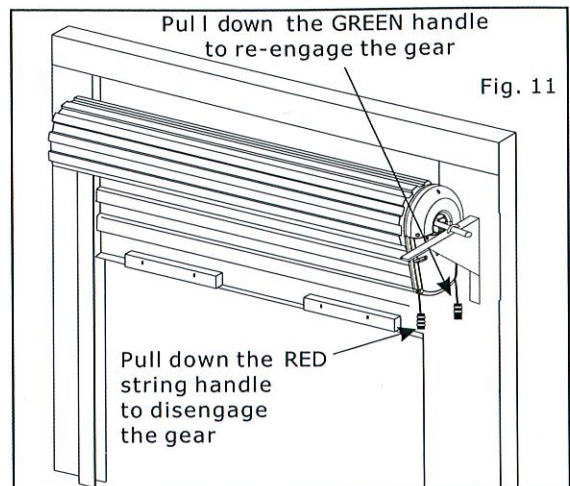

Fig. 11
- (a) With Drive Unit in manual mode (disengage, see Fig.11), move the door up by hand to desired position.
- (a) With Drive Unit in manual mode (disengage, see fig.11), move the door up by hand to desired position.
- (f) Re-engage the drive gear by pull down the GREEN string handle (see Fig 11).